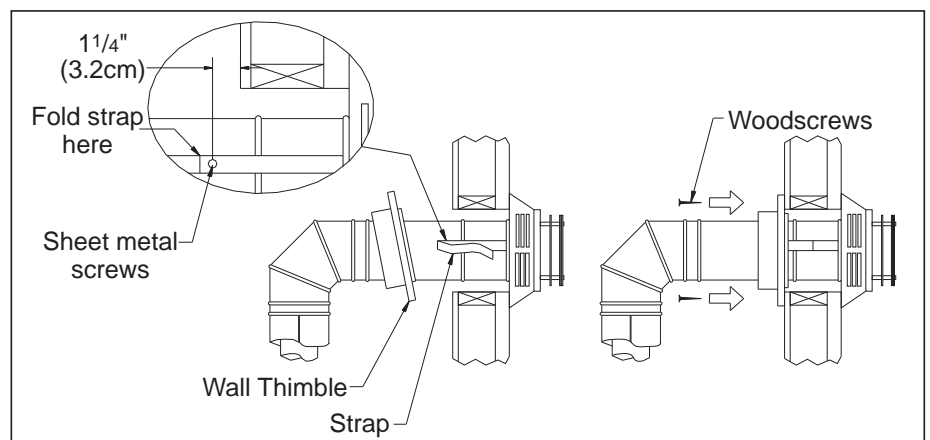

Figure 25: Installing Decorative Wall Thimble.
6. Slide the appliance and vent assembly towards the wall, carefully inserting the vent pipe into the cap assembly. It is important that the vent pipe extend into the vent cap a sufficient distance with a minimum of 1¼" (3.2cm) overlap. Secure the connection between the vent cap pipe and the vent cap by attaching the two sheet metal straps extending from the vent cap assembly into the outer wall of the vent pipe. Use the two sheet metal screws provided to connect the straps to the vent pipe. Bend any remaining portion of the sheet metal straps back towards the vent cap, so the decorative wall thimble will conceal it (see left image in Figure 25).
7. Slide the decorative wall thimble up to the wall surface and attach with the screws provided. Apply decorative brass or chrome trim if desired (see right image in Figure 25).